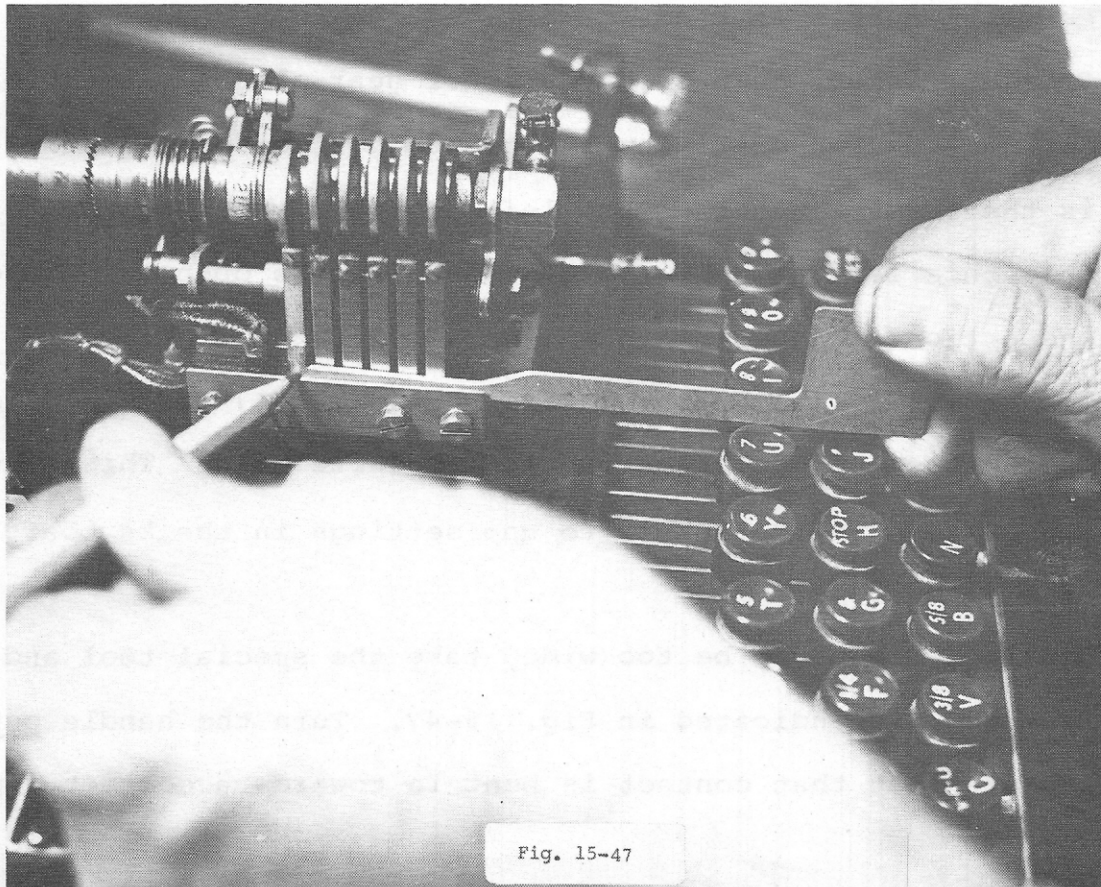

Fig. 15-47
5. Should a given gap be too wide, take the special tool and insert it as indicated in Fig. 15-47. Turn the handle gently, and see that that contact is bent in towards a correct gap.